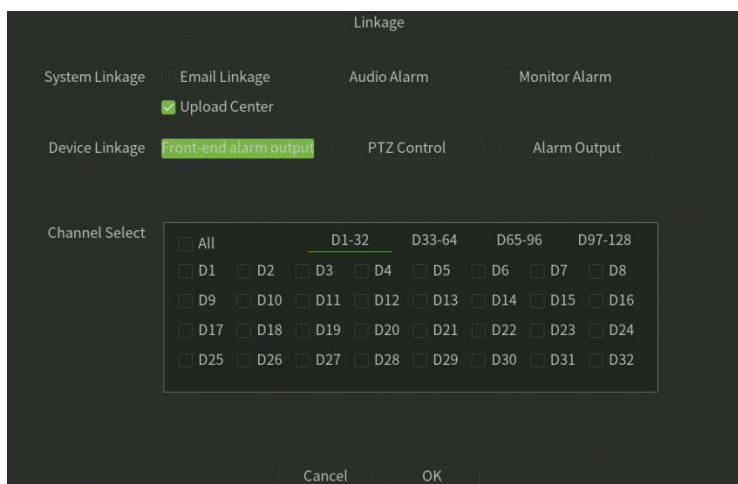

Figure 6.14 Linkage
- Click Linkage button, Setup the linkage operation of the function, as shown in figure 6.14.